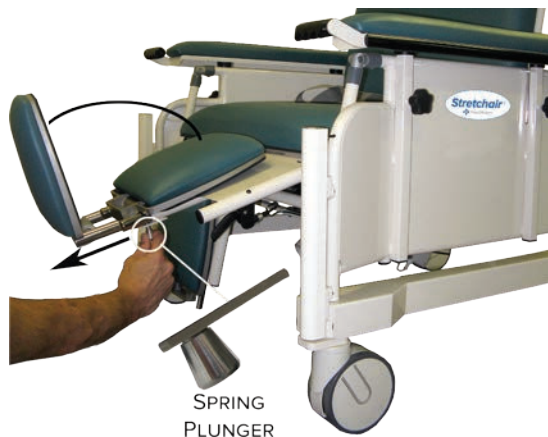

FIG. 1
1. **BRAKE MODE:** Press down on the **RED** end of the lever (FIG. 1) to activate the total-lock mode. When engaged, the total-lock position will prevent the casters from swiveling and spinning.
2. **NEUTRAL MODE:** Position the lever so that it is completely horizontal (as shown below - FIG. 1). When engaged, the neutral position allows the casters to swivel and spin freely.
3. **STEERING MODE:** Press down on the **GREEN** end of the lever (FIG. 1) to activate the steering lock. This mode secures both front wheels in the "steer lock" position and allows the rear wheels to swivel and spin freely.
2. Depress the swing-leg release handle and adjust to desired elevation (FIG. 1).
3. To adjust a foot rest to one of the four extended positions, push or pull on the foot rest while pulling down on the spring plunger (FIG. 1).